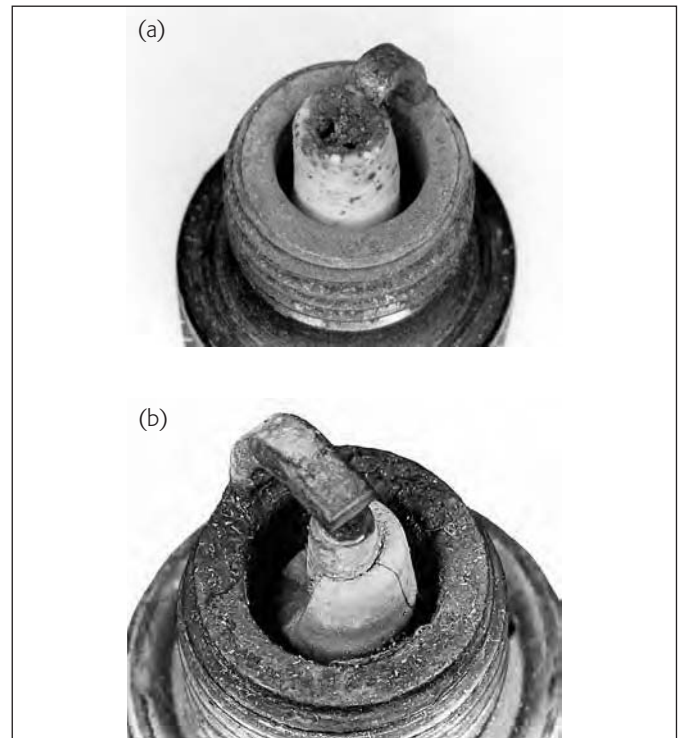

FIGURE 3.52 Damage due to (a) preignition and (b) detonation. (Courtesy of Champion Spark Plugs)
- Spark plugs are a window to combustion chamber action. **Figure 3.52** shows spark plug conditions that resulted during preignition and detonation.